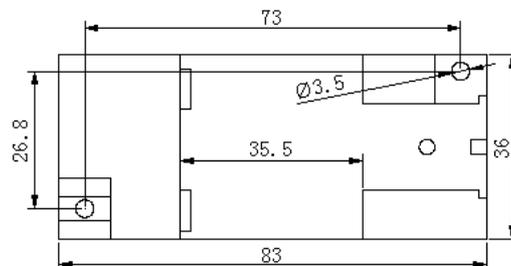

Figure 5, installation dimensions
DIN35 rail mounting or screw mounting installation, the installation size is shown in Figure 5 (in mm).
- ① Fix the transducer on the side of the card slot and hook on the mounting rail;
- ② Pull the spring pin down;
- ③ Clip the transducer mount on the mounting rail;
- ④ Release the spring pin and clip the transmitter on the mounting rail.
- ① 4mm diameter hole in the fixed plate according to the screw hole position shown in Fig. 5;
- ② Use the screw $\Phi 3.5$ to insert into hole and secure it.